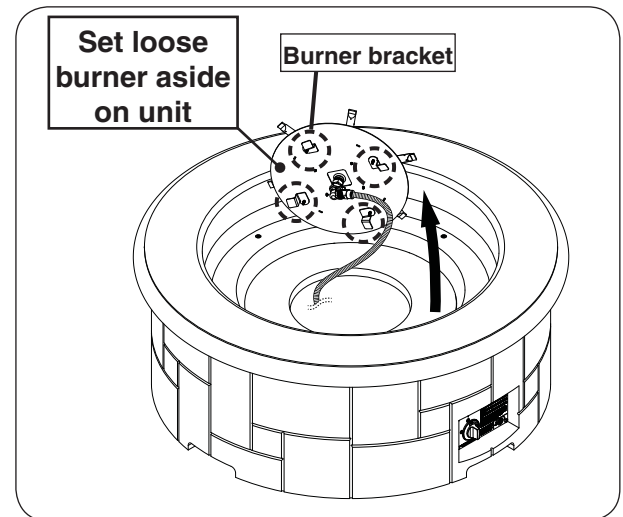

Fig. 19-2 Remove burner assembly
2. Use a $\frac{5}{16}$ " nut driver to partially unfasten the four screws found on the burner assembly. Then carefully remove the burner and set it off to the side. See Fig. 19-2.